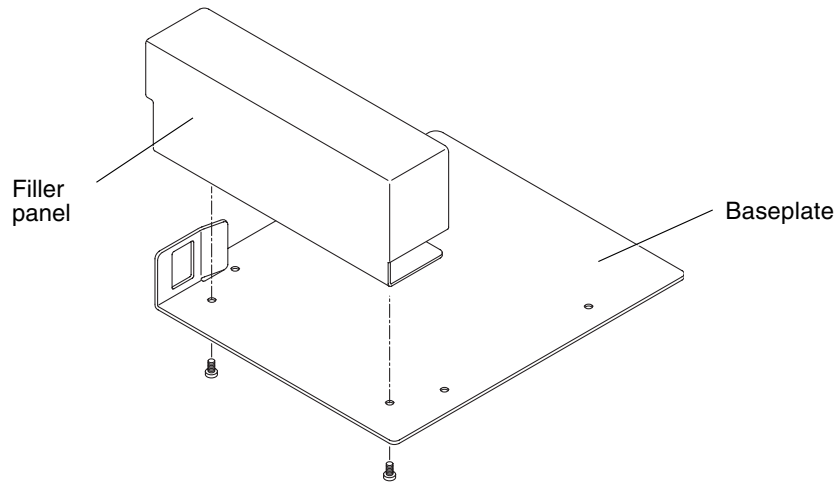

FIGURE 5-13 Dismantling the Tape Drive Filler Panel
5. Remove the two countersunk screws that secure the tape drive filler panel to the baseplate (FIGURE 5-13). Remove the tape drive filler panel.